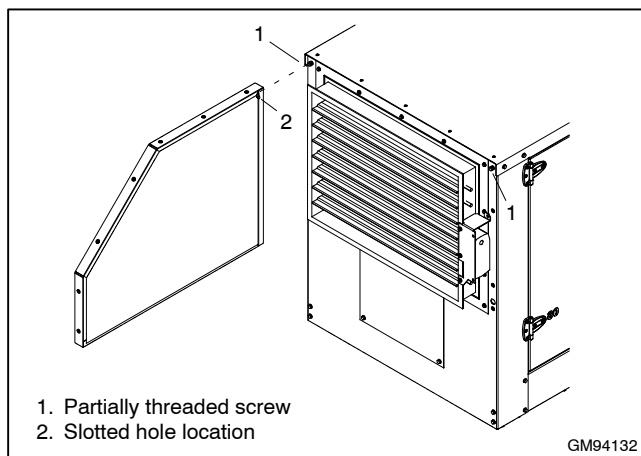

Figure 4 Side Panel Installation
- 2.2 To support either side panel during installation, partially thread a screw into the top screw hole locations on the enclosure. Use the slotted hole in the side panel to align the side panel with the partially threaded screw on the enclosure. See Figure 4.